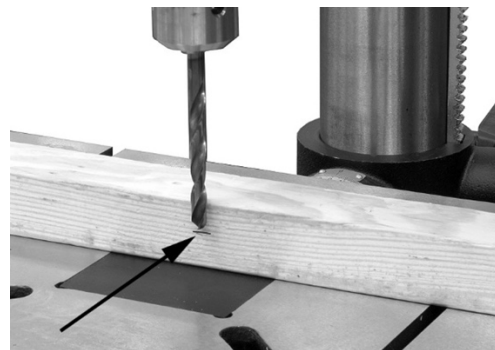

Figure 10-38
3. Use down-feed handles to lower the bit to the mark as shown in Figure 10-38.